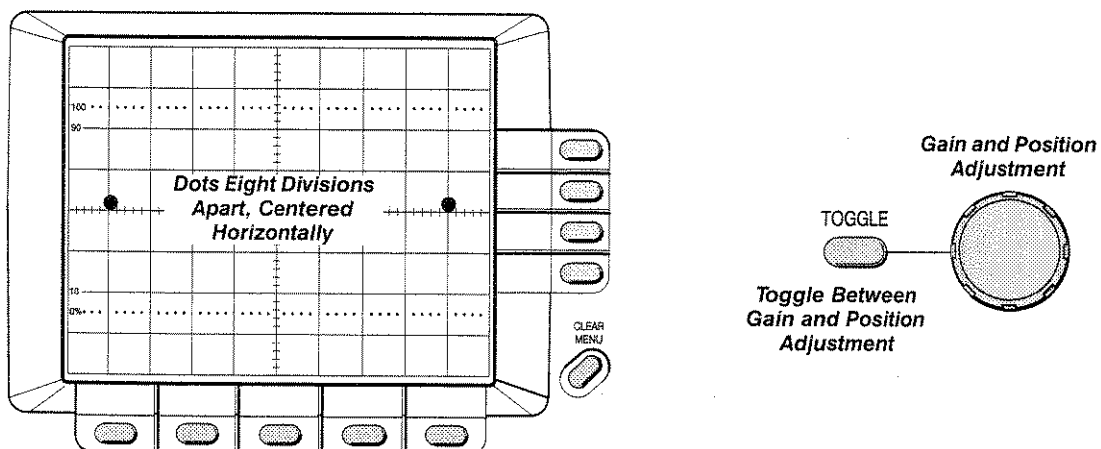

Figure 7-4: Horizontal Adjustments (One)
5. Use a combination of the **TOGGLE** button and the General Purpose Knob to position the dots 8 divisions apart, centered horizontally (see Figure 7-4).
7. Again, use a combination of the **TOGGLE** button and the General Purpose Knob to position the dots 8 divisions apart, centered horizontally (see Figure 7-4).